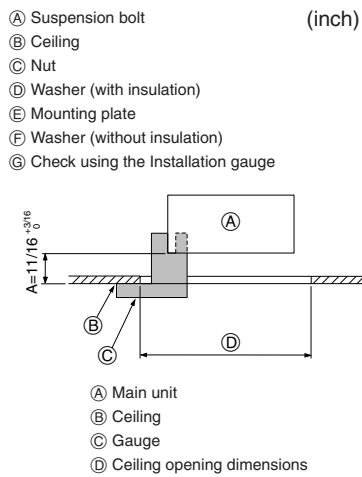

Fig. 3-7
- Make sure that step A is performed within 17-22 mm, 11/16-7/8 inch. Damage could result by failing to adhere to this range. (Fig. 3-7)